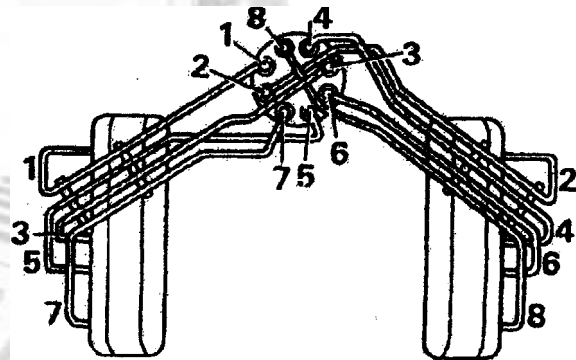

Fig.4.01 Plug lead routing.
- When NO.1 piston is at TDC compression stroke, does the distributor rotor arm point to No. 1 plug lead in the distributor cap as seen in Fig.4.01?